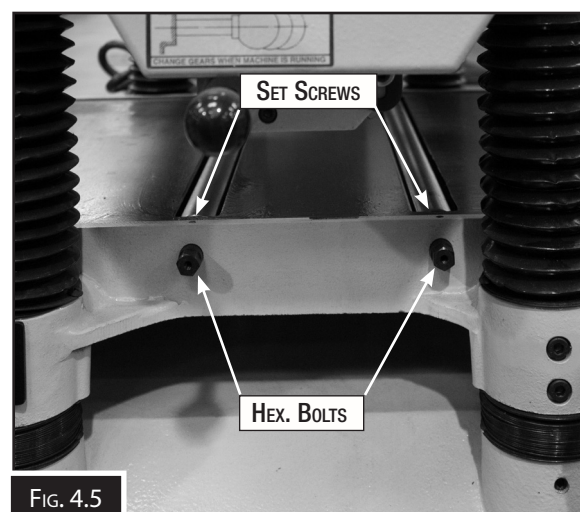

FIG. 4.5
3. Loosen the set screws above each of the four roller adjustment hex bolts, two on each side (Fig. 4.5).